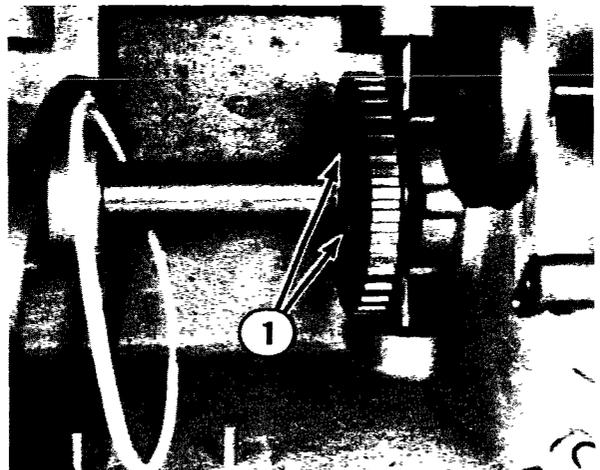

Fig. 2-17
- (9) Loosen the set screws (1, Fig. 2-17) on the collar of the large gear pulley.
- (10) Slide the gear pulley off the key and remove the key from the shaft.